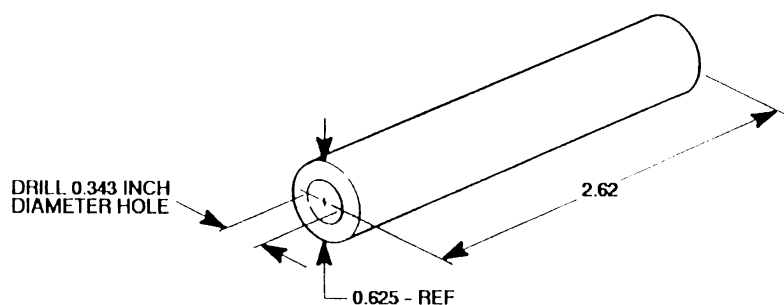

FIGURE 3-9
2. Using NSN 9510-00-229-4822 metal bar or suitable substitute, fabricate bushing. (see figure 3-9)